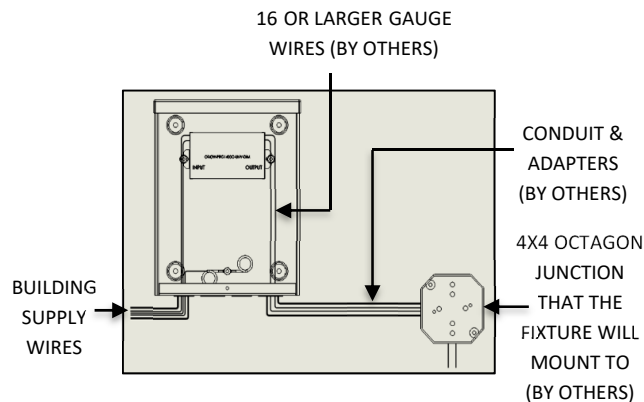
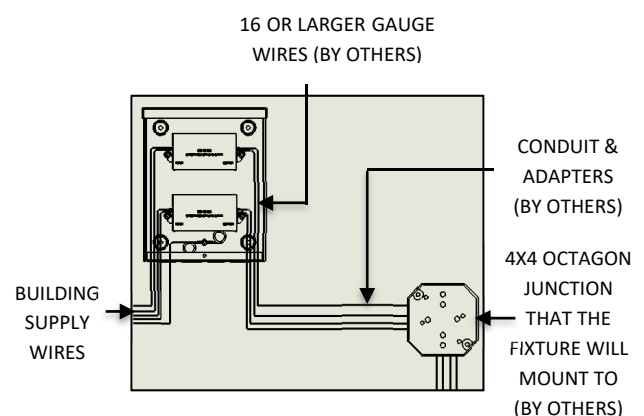

FIG. 9 – WIRE CONNECTION FROM
FIG. 10 – WIRE CONNECTION FROM
5. Depending upon the size of the fixture (see WIRE DIAGRAM TABLE on Page 5 for correct Wire Diagram) run (1) set of positive and negative 16 or larger gauge wire (by others) or (2) set of positive and negative 16 or larger gauge wire (by others) from the REMOTE DRIVER HOUSING to the junction box the fixture will mount to (by others). Inside the REMOTE DRIVER HOUSING, connect:
- Dimming wires as shown on the driver in FIG. 9 and FIG. 10 below.